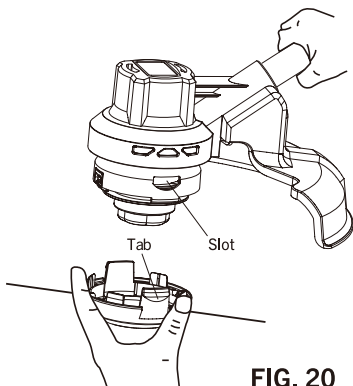

FIG. 20
- With the spool base facing downward, align the slots in the spool retainer with the tabs on the spool base and press the retainer evenly down until it snaps into place (FIG. 20).